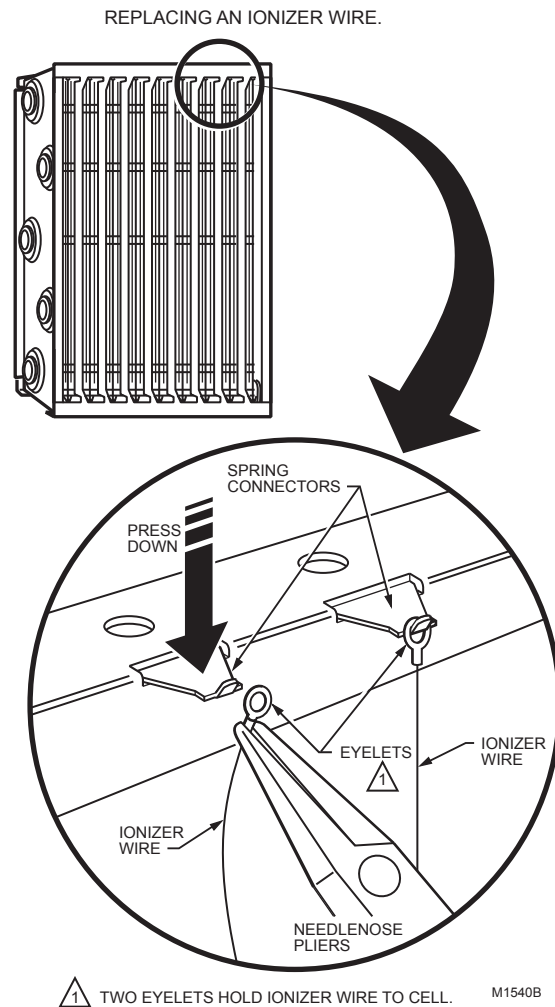

Fig. 15. Replacing an ionizer wire.
1. Hook the eyelet on one end of the wire over the spring connector on one end of the cell. See Fig. 15. Be careful to avoid damaging spring connectors or other parts of the cells.